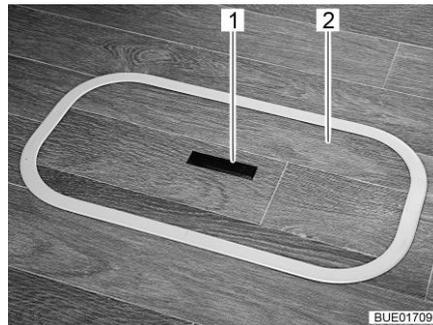
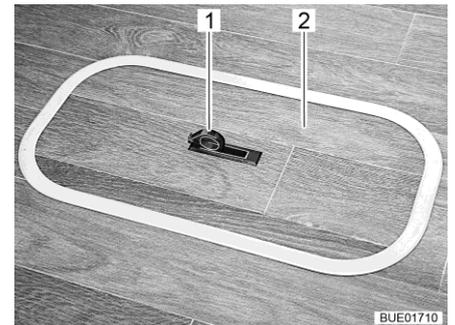

Fig. 70 Floor compartment cover (handle recessed)
Fig. 71 Floor compartment cover (handle swung out)
- Push one side of the grip plate (Fig. 70,1) downwards. The handle (Fig. 71,1) swivels upwards.
- Remove the cover (Fig. 70,2 or Fig. 71,2) upwards.